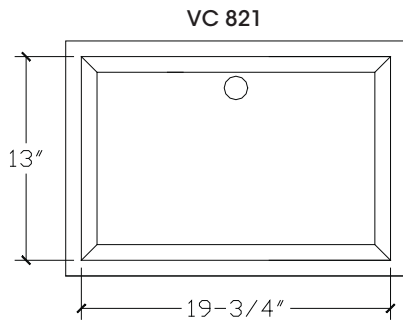
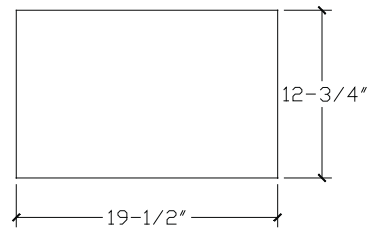

Figure 1
Figure 2
2. Determine the size of your opening based on the sink chosen. For example, a sink with inside dimensions of 19-3/4" x 13" (Figure 1), will require a counter opening of 19-1/2" x 12-3/4" (Figures 2 and 3), i.e. 1/4" less in both depth and length.